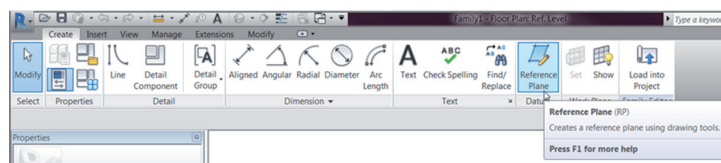

FIGURE BC2.1: The Reference Plane button on the Create tab
1. On the Datum panel of the Create tab, click the Reference Plane button, as shown in Figure BC2.1.